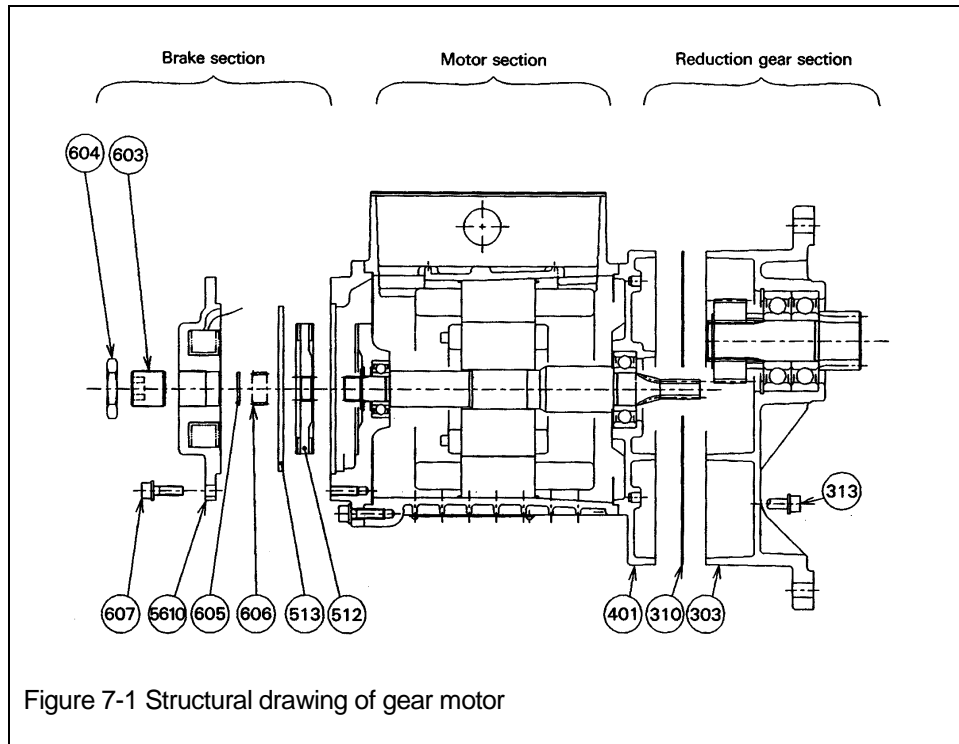

Figure 7-1 Structural drawing of gear motor
- b) To clean and lubricate the reduction gearing in the gear motor refer to Figure 7-1 and disassemble as follows:
- (1) Detach the socket bolts 313.
- (2) Disassemble gearbox A 303 from gearbox B 401.
- (3) Remove gearbox packing 310.
- (4) Clean components and re-lubricate using an approved lubricant from Table 6-1 in Section 6.
- b) To clean, lubricate and adjust the brake in the gear motor refer to Figure 7-1 and disassemble as follows:
- (1) Remove the electromagnetic coil assembly 5610 by detaching the socket bolts 607.
- (2) As the electromagnetic coil assembly 5610 is wired to the terminal box of the motor, be careful when handling the wiring.
- (3) Remove the spring holder 605, brake spring 606, armature 513 and brake disk 512.
- (4) Lightly grease the spline of the brake disk 512 and sliding parts of the armature 513 with MORISPEED grease No. 2 or similar.
- (5) Inspect the brake disc for wear and replace if necessary. Refer to Tables 5.3 and 5.7. Do not allow grease or oil on the brake disc surface.